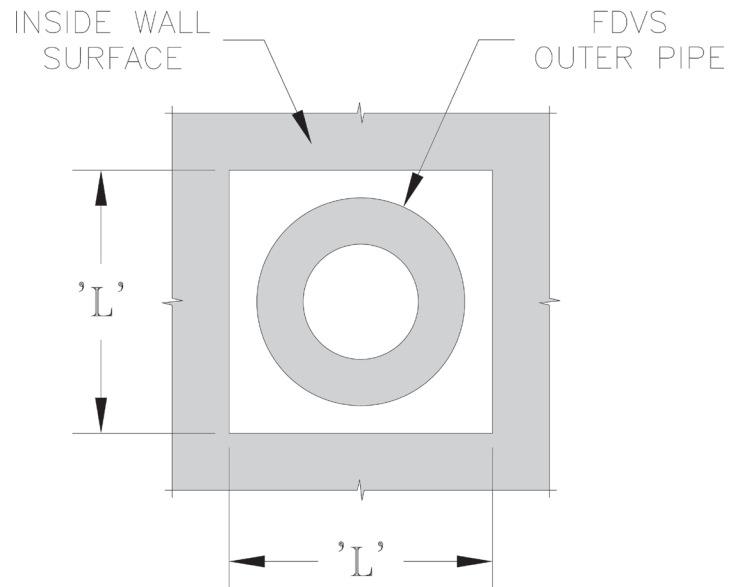

Figure 17: Wall Cutout Dimensions
(see Figures 17, 18 and 19)
5. After determining the location of the venting system termination, cut the square hole in the wall sized according to “L” dimension in Table 6, see Figure 17.